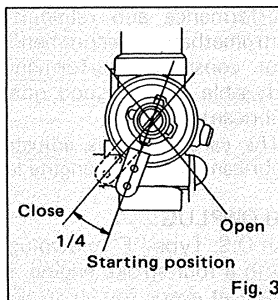

Fig. 3
2. Open the throttle so that the throttle-arm is at one-quarter of its full throw. (see Fig. 3)
2. Open the throttle so that the throttle-arm is at one-quarter of its full throw. (See Fig. 3)
1. Set the throttle lever 1/4 open from the fully closed position (see Fig. 3) and start the engine in the usual way. It is preferable to have the throttle only slightly open, to avoid unnecessarily high revolutions when the engine starts.